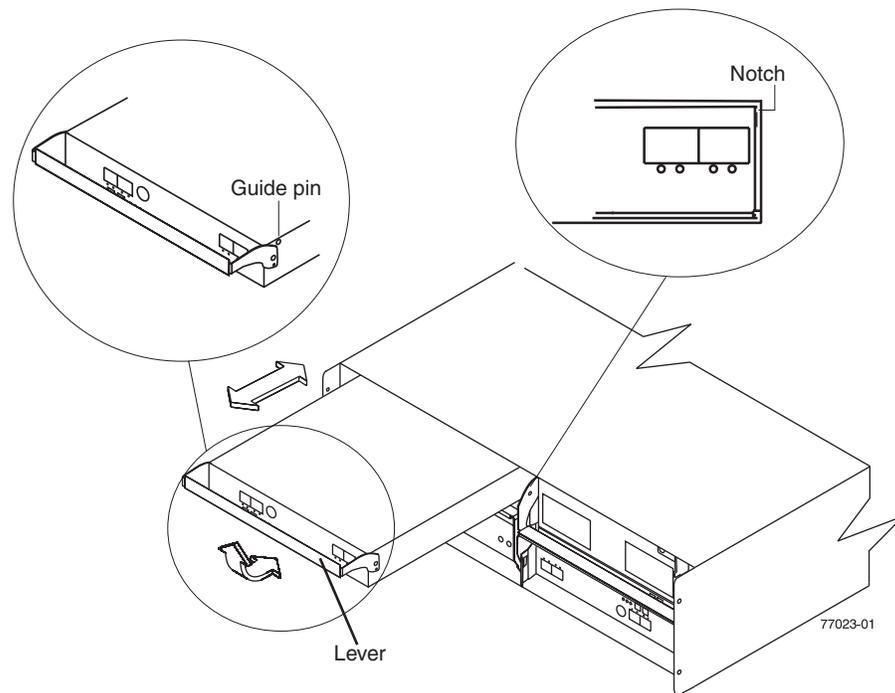

Figure 100. Installing a controller
- a. Slide one controller into the empty slot in the storage subsystem. Be sure that the lever is pulled straight out as you slide the controller in, as shown in Figure 100.